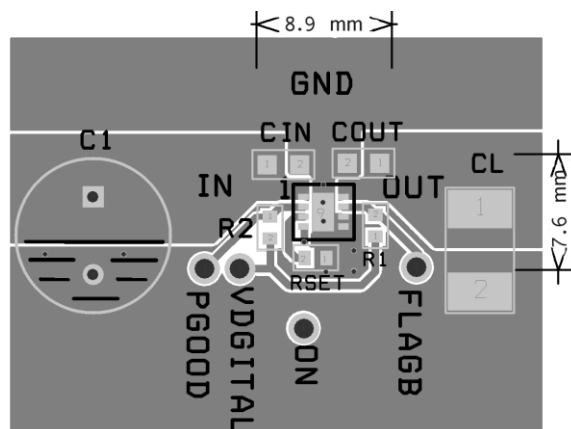
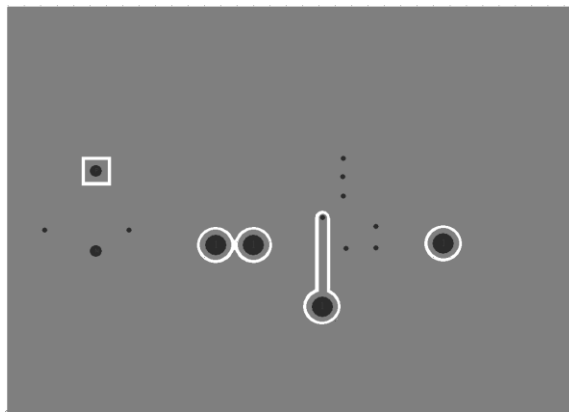

Figure 37. Proper Layout of Output and Ground Copper Area (Top, SST, and AST Layers)
Figure 38. Proper Layout (Bottom and ASB Layers)
For the best performance, all traces should be as short as possible. To be most effective, the input and output capacitors should be placed close to the device to minimize the effects that parasitic trace inductances may have on normal and short-circuit operation (Figure 37). Using wide traces for IN, OUT, and GND pins helps minimize parasitic electrical effects as well as the case- to-ambient thermal impedance.
3. The IN, OUT, and GND pins dissipate most of the heat generated during high-load current condition. The layout suggested in Figure 37 and Figure 38 is strongly recommended illustrating a proper layout for devices in MLP 3x3 packages. IN, OUT, and GND pins are connected to adequate copper so that heat may be transferred as efficiently as possible out of the device. The low-power FLAGB and ON pins traces may be laid-out diagonally from the device to maximize the area available to the ground pad. Place the input and output capacitors as close as possible to the device.